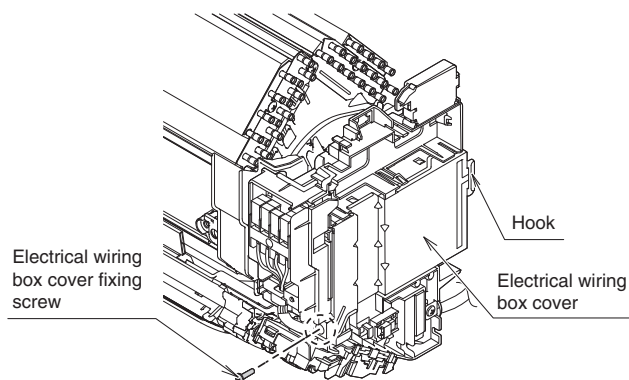

Fig.5
- 2) Remove electrical wiring box cover. (1 screw) (See Fig.5, 6)